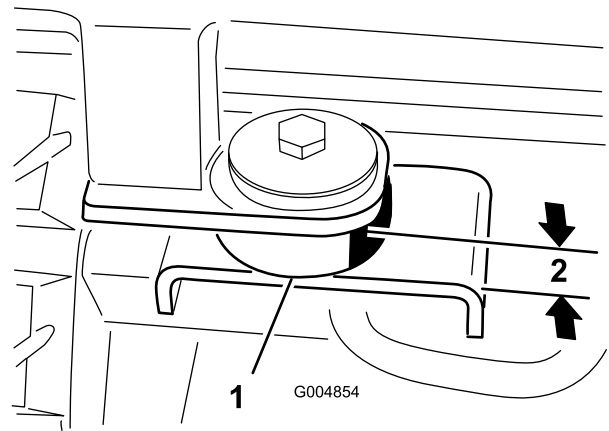

Figure 116
26. At the rear mounting points, secure the cab to the machine with a bolt (1/2 x 3 inches), steel washer (1/2 x 2-1/2 inches), rubber washer (1/2 x 2-1/2 inches) and nut (1/2 inch) (Figure 116). Tighten all four cab mount bolts until the rubber mounts are compressed to a thickness of 7/8 inch (2.2 cm).